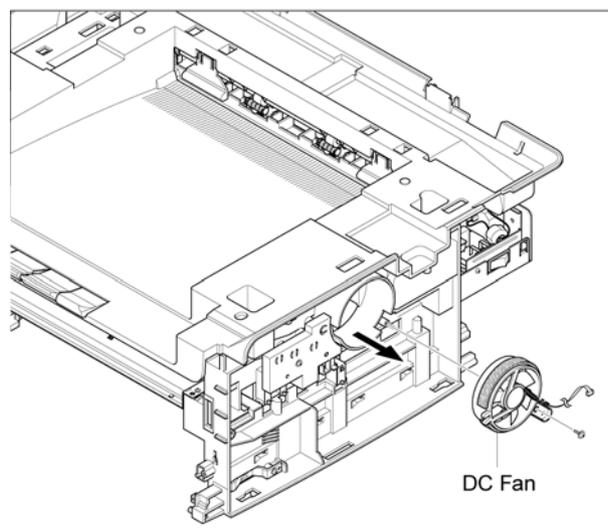

Figure 1
5. Remove 1 screw, then the Toner Fan. Figure 1.